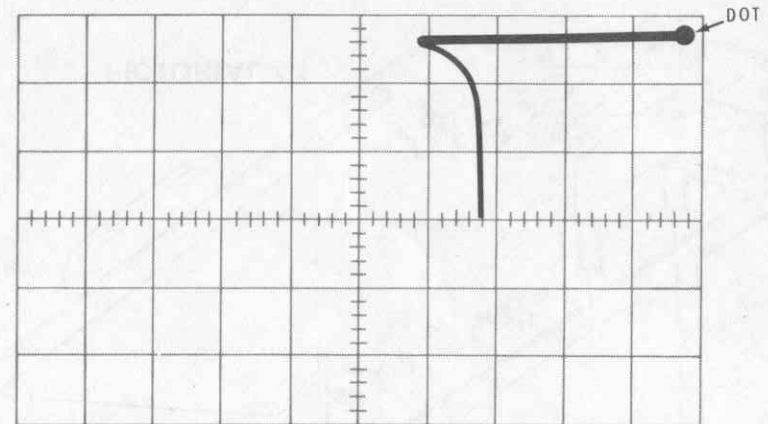

Figure 1-15
- ( ) Position the dot in the upper right-hand corner of the screen. See Figure 1-15.
- ( ) Turn the SWEEP VOLTAGE control clockwise until a line appears as in Figure 1-15. This is reverse breakdown of the C to E junction.